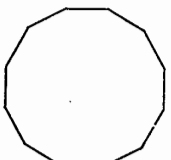

Fig. 53
46. A *Dodecagon* has twelve sides. Fig. 53.